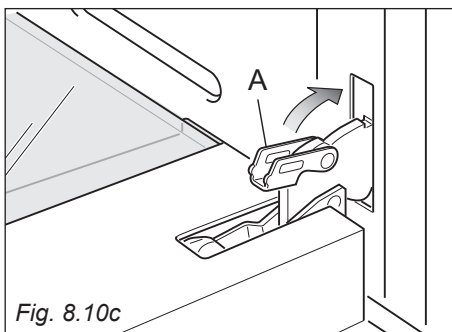

Fig. 8.10c
4. Fully close the levers "A" on the left and right hinges, as shown in the figure 8.10c.